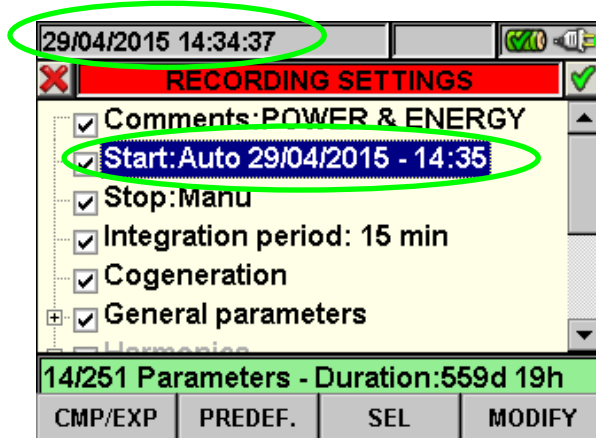

Fig. 82: Correct Date/Hour
2. Press **F4** key (alternatively touch the **MODIFY** at display). In the bottom of display a command bar with “Manu” is shown. Press **F3** key (**MOD(+)**) or **F4**(**MOD(-)**) and select “Auto” .Use left or right arrows keys to move on date and hour fields. Using the up arrow key or **F3** (**MOD(+)**) key to increase the value and the down arrow key or **F4** (**MOD(-)**) key to decrease the value. Set a correct Date/Hour as shown in Fig. 82.